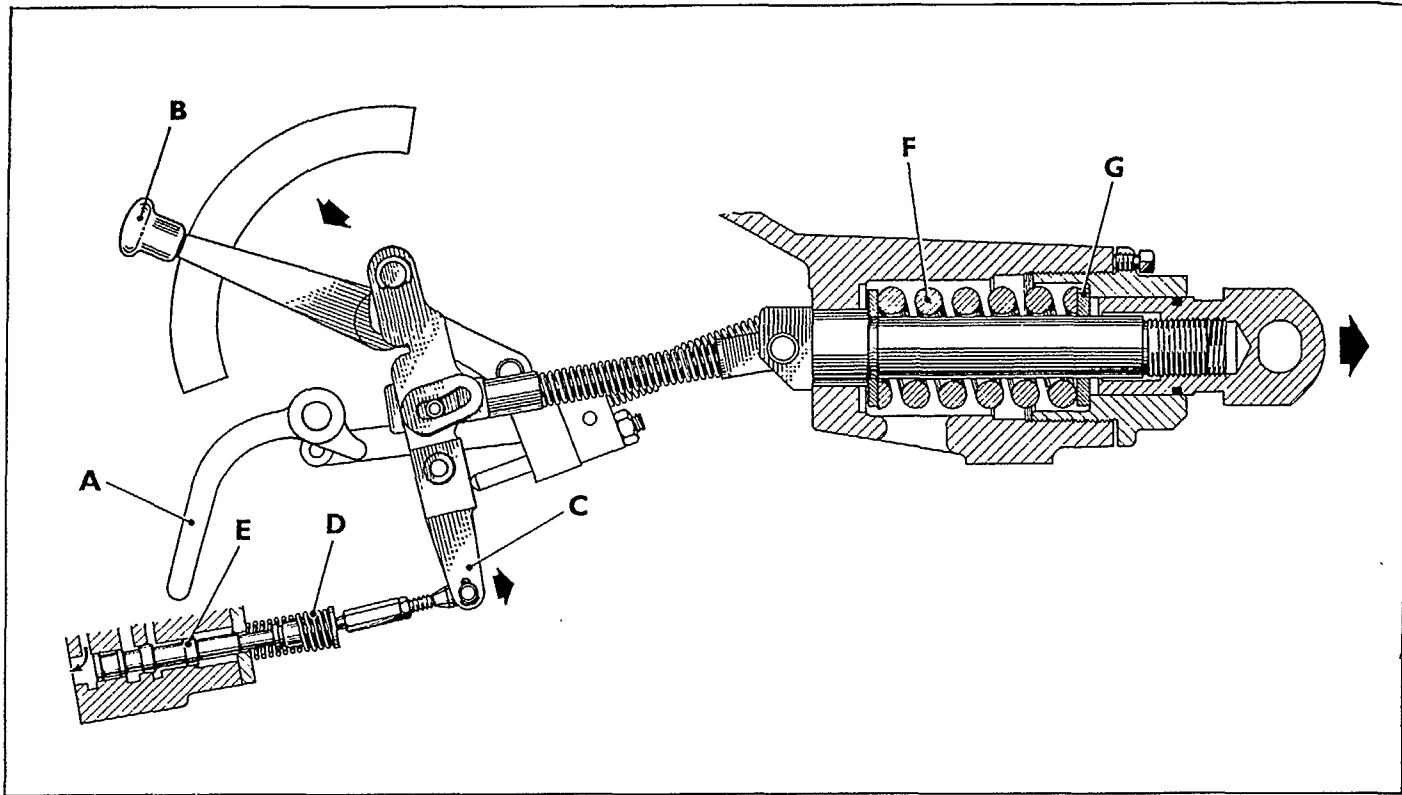

Figure 50
2. A decrease in draft will produce an increase in tension in the top link, Figure 50, and the draft control linkage will be drawn away from the actuating lever. This will increase the rearward compression on the draft control main spring allowing the control valve spring to move the control valve into the lowering position. As the implement runs deeper the draft will increase until such time as the original draft is obtained and the draft control main spring expands in a forward direction moving the control valve into the neutral position.